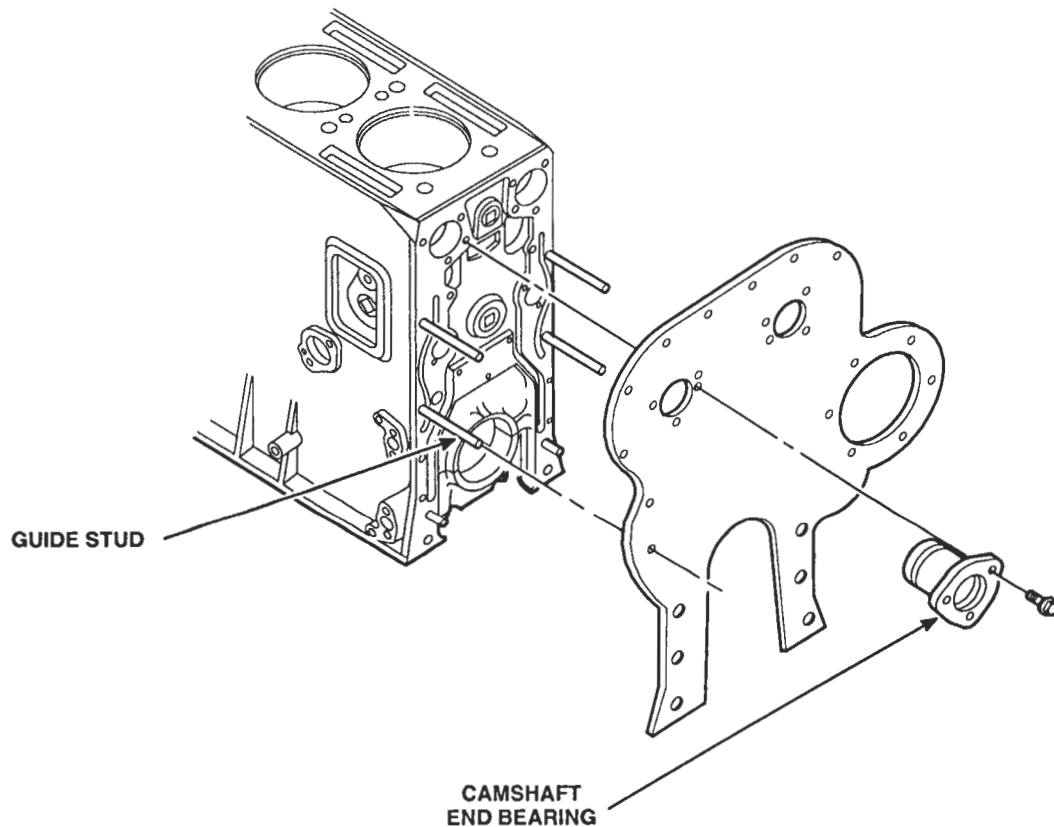

Figure 4. Rear End Plate Installation
3. Insert a camshaft end bearing through the SMALL bearing bore in the end plate and into the bore of the block to accurately align the end plate (Figure 4.)